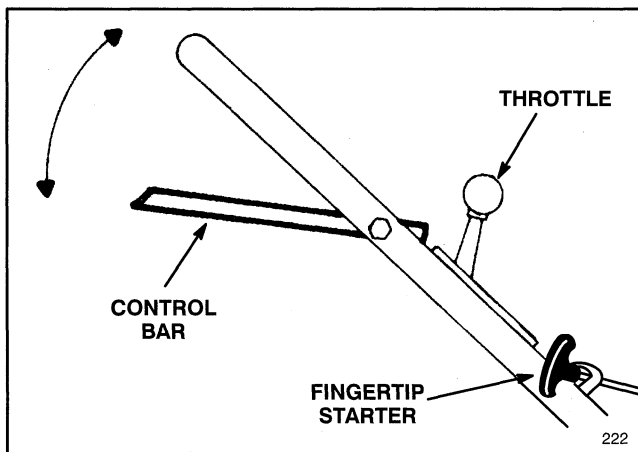

Figure 10
1. **CONTROLS**—Throttle control, control bar, and fingertip starter are on upper handle (Fig. 10).
3. **STARTING**—Move throttle to **CHOKE**. Cover hole in center of primer with thumb and push once. Lift control bar to handle and hold. Pull fingertip starter out until positive engagement results; then pull vigorously to start the engine. Regulate throttle as desired when engine starts (Fig. 10).